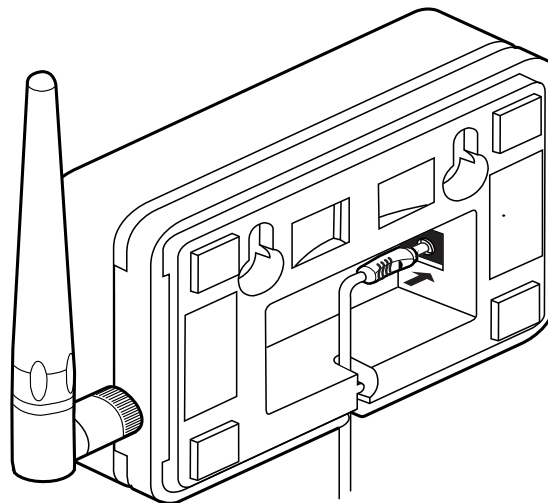

Figure 19. 5V power input to repeater
- Pass the DC power cable through the slot in the lower side of the case as shown in “Figure 19. 5V power input to repeater”.